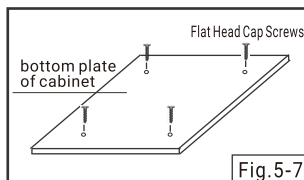

Fig.5-7
2. Insert the four flat head cap screws from the top of cabinet into the drilled holes. (Fig. 5-7)